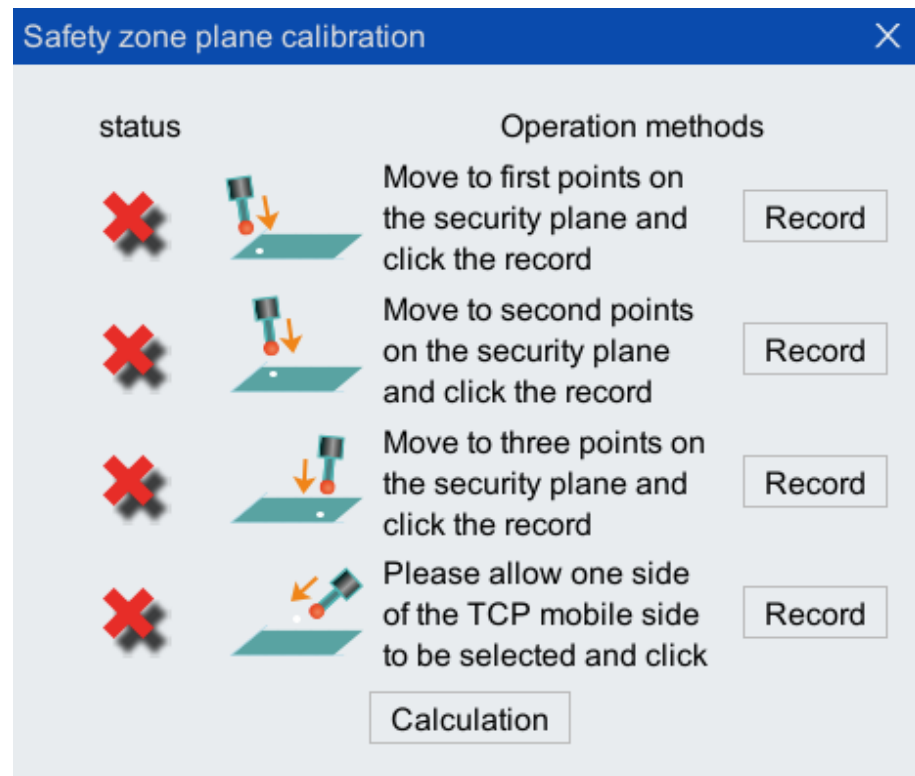

Figure 5-25 Four point calibration interface
Step4. In the pop-up [Safety zone plane calibration] calibration interface (as shown in Figure 5-25), follow the prompts to calibrate the four points. By manually teaching, identify three points to determine a plane, and then teach a fourth point on one side of the plane to determine which side of the plane allows TCP point movement, thereby determining a reasonable motion space (i.e. work area). In this case, the corresponding plane parameters are also determined accordingly.